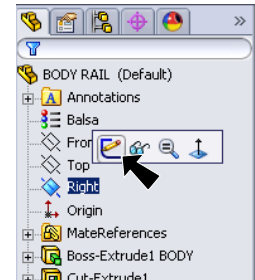

Fig. 151
Step 1. Click **Right**  (plane) in the Feature Manager and click **Sketch**  from the Content toolbar, Fig. 151.